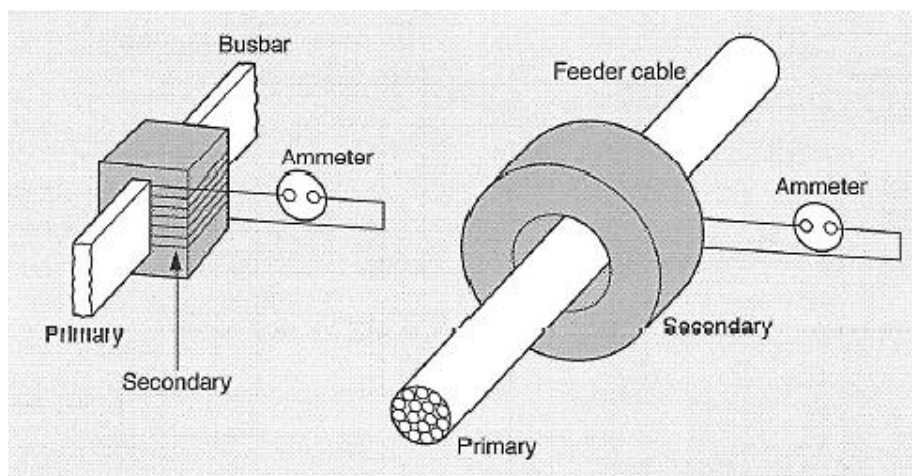

Figure 8.11: Current Transformers
- 8-62 The primary winding in a current transformer may be nothing more than a solid copper busbar, as shown at the left in Figure 8.11. An iron core fits around the busbar, and the secondary winding is wound around the core. Another kind of current transformer consists of a doughnut-shaped secondary coil that you slip over a feeder cable. Another kind of current transformer consists of a doughnut-shaped secondary coil that you slip over a feeder cable.